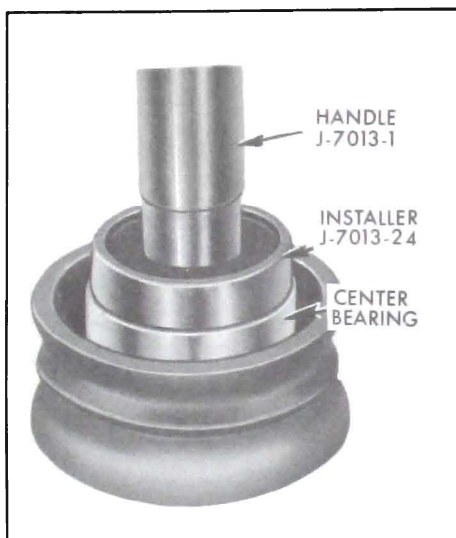

Figure 6-73—Installing Center Bearing on Lower Series
1. Install washer and new bearing into the center bearing retainer and drive bearing into place in this assembly with Installer J-7013-24 and J-7013-1 handle (Flight Pitch tools). Bend lock tabs to secure bearing. See Figure 6-73.